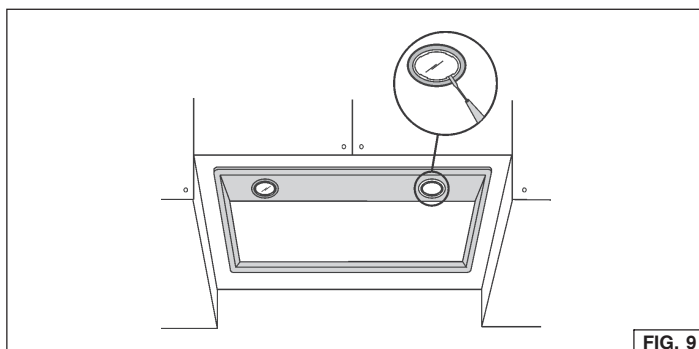

FIG. 9
1. Open the cover by prying from the proper slots (Fig. 9). - **DO NOT ROTATE. CAUTION: BULB MAY BE HOT!**